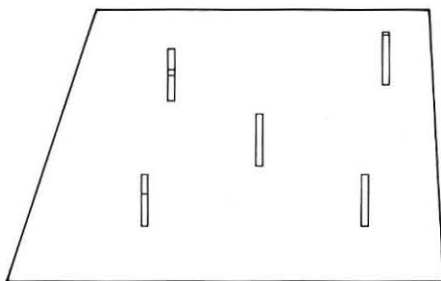
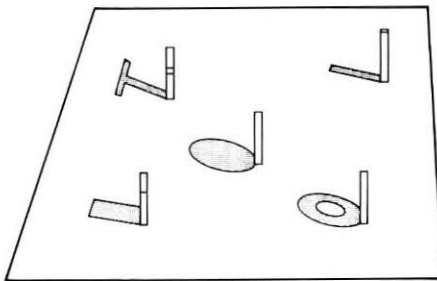

FIGURE 3: Three dimensional objects oriented to provide maximum information.
FIGURE 4: Shadows cast by the objects of Figure 3 provide depth information.
This cue is a special tool of the artist and the cinematographer (4). When skillfully applied, it is rather powerful. An illustration is provided in Figures 3 and 4. The shapes of objects in Figure 3 were deliberately chosen and oriented to provide as little information as possible. A light source from above and to the right in Figure 4 causes shadow patterns to form from the objects. As each object is now viewed, a believable estimate of depth and shape can be made on the basis of the shadow patterns. The addition of shadow patterns provides the equivalent of two simultaneous views from different points of view.